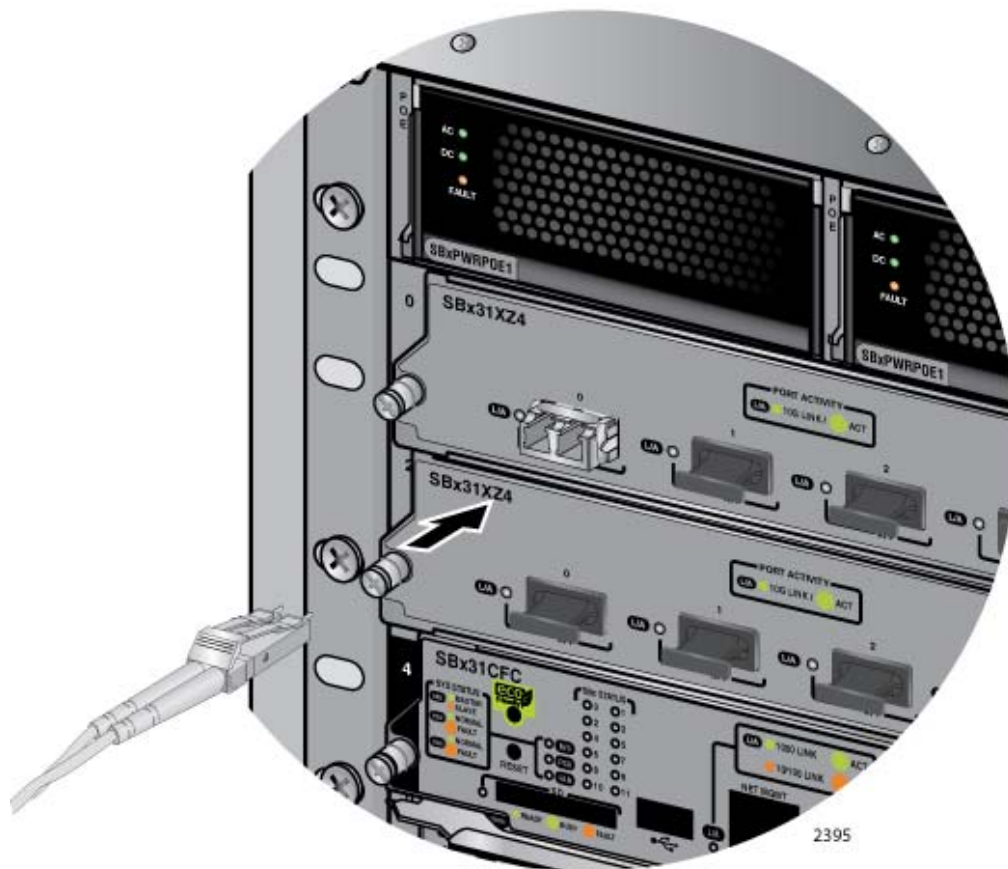

Figure 107. Attaching a Fiber Optic Cable to an XFP Transceiver in the AT-SBx31XZ4 Line Card
6. Connect the fiber optic cable to the port on the transceiver, as shown in Figure 107. The connector should snap into the port.